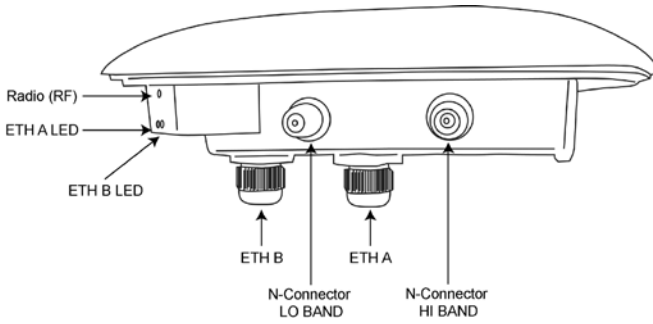

Figure 3-4a Connections on the PRO TOTAL unit
3. Connect the PoE Injector via the RJ45 jack running from the ETH OUT port on the back to the Ethernet Port ETH A on the unit (as shown in Figures 3-4a and 3-4b).
The second RJ45 port, ETH B, as shown in Figure 3-4a/b/c, is available for daisy chaining to another device. To connect the second device, follow the procedure as outlined above. This is not applicable for the airClient Nexus TOTAL (sB3413 and sB3414) and airClient TOTAL (sB3415) which does not have a second ethernet port.
- 1. Connect the antenna RF cable to the correct N-Connector (please see Figure 3-4a/b/c/e).